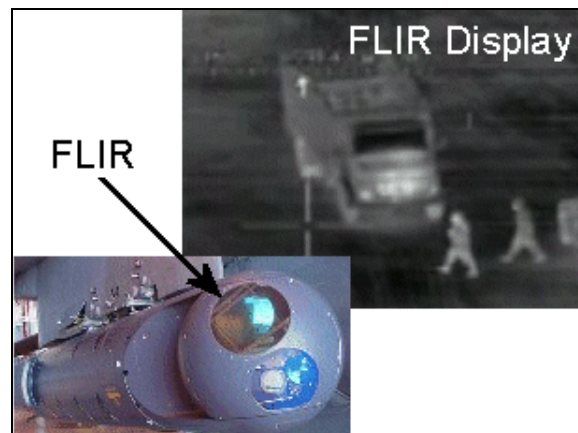

Figure 6 – Example Forward Looking Infrared system (left) and display (right)
1. Infrared sensors and systems – including Forward Looking Infrared (FLIR) sensors (figure 6) – rely on energy emitted from a target area. Thermal contrast between the target and its background is very important.